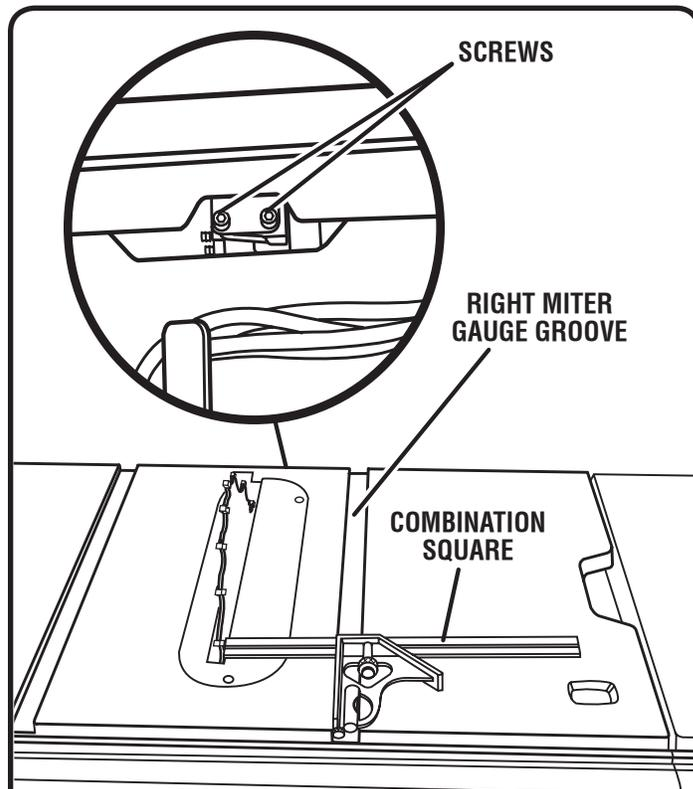

Fig. 25
See Figures 25 - 27.
- Mark beside one of the blade teeth at the front of the blade. Place the body of a combination square against the miter gauge groove as shown in figure 25. Measure the distance to the right miter gauge groove.